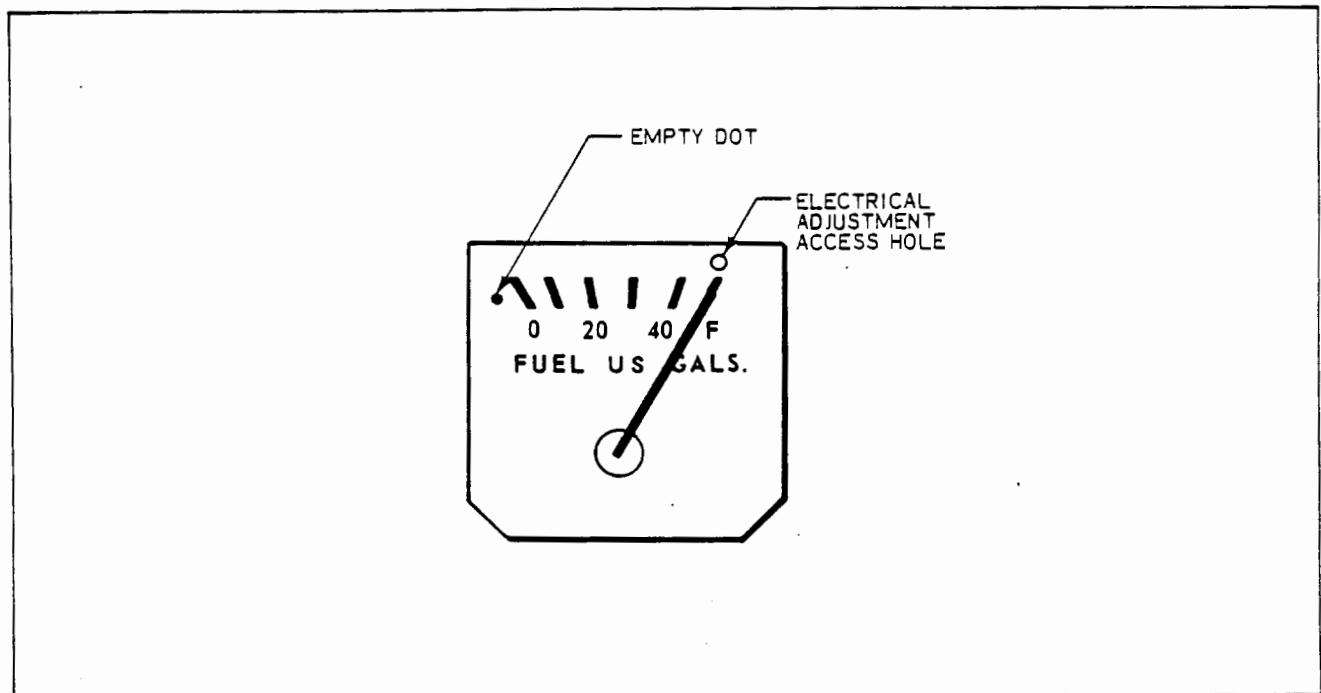

Figure 28-6. Fuel Gauge
5. With the tanks full the needle should be centered on the "F" radial mark within ± 1 needle width. If not within this tolerance adjust (refer to Figure 28-6) just sufficiently to bring it within tolerance - do not center the needle.